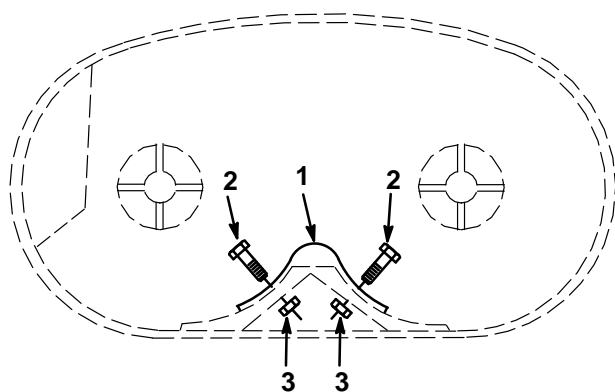

Figure 1
1. Center rear weldment as shown in (Fig. 1). Install rear baffle to deck using two  $\frac{1}{4}$ "-20 x  $\frac{3}{4}$ " bolts and  $\frac{1}{4}$ -20 lock nuts.